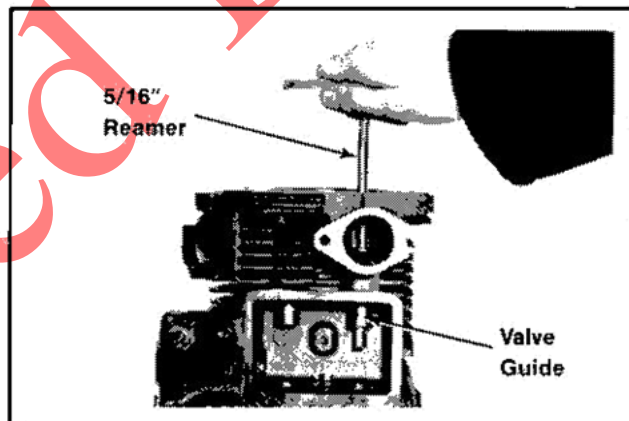

Figure 11-7. Reaming Valve Guide.
3. Valve guides are often slightly compressed during insertion. Use a piloted reamer and then a finishing reamer to resize the guide bore to .3125". Refer to Figure 11-7.